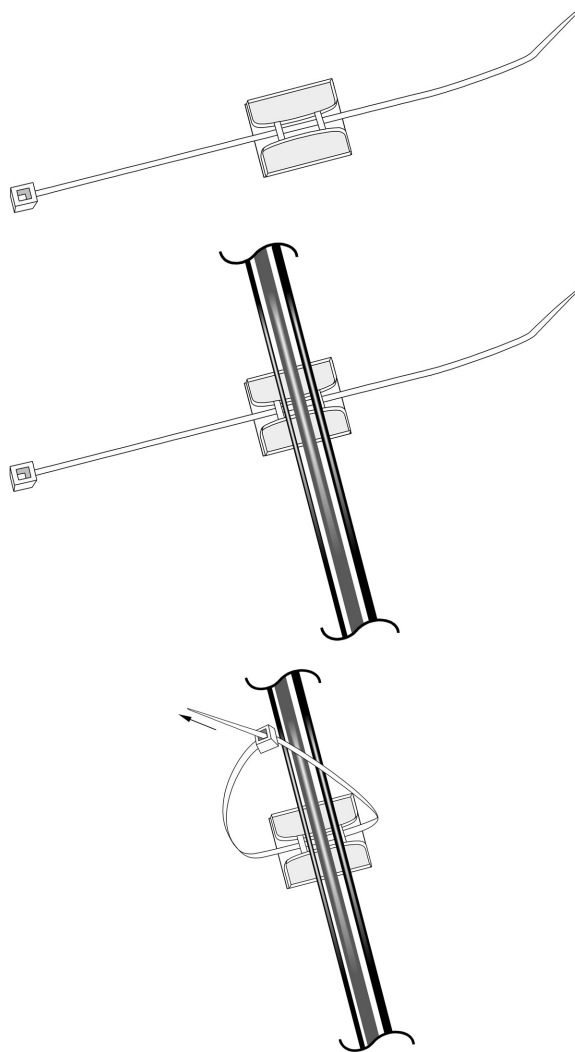

FIGURE 6-2. Securing cables to the cable tie tabs
- Secure sensor and component cables to the side of the enclosure using 20 cm (8 in) cable ties and cable tie tabs (see FIGURE 6-2 (p. 10)).
6. Secure sensor and component cables to the side of the enclosure using 20 cm (8 in) cable ties and cable tie tabs (see FIGURE 6-2 (p. 10)).